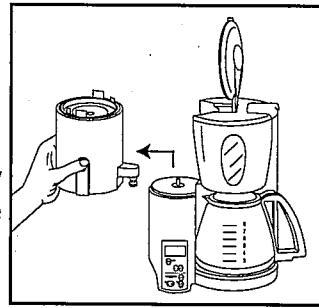

Figure 2
- To remove Grinder/Filter Assembly, press in Grinder/Filter Lid Lock. Rotate Lid upwards to open. Press in Lock Levers on Grind/Brew Housing, lift up Housing slightly and pull away from Coffeemaker Base. See Figure 2.